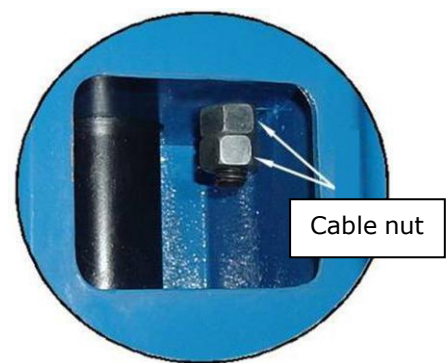

Fig. 54
1. Adjust synchronous cable (See Fig. 54)